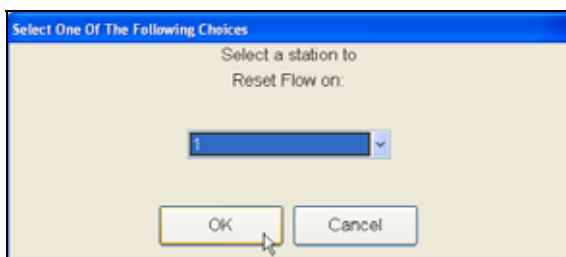

Figure 7.2.8
- Click on the **DOWN** arrow to select a station. Click **OK** (Figure 7.2.8).